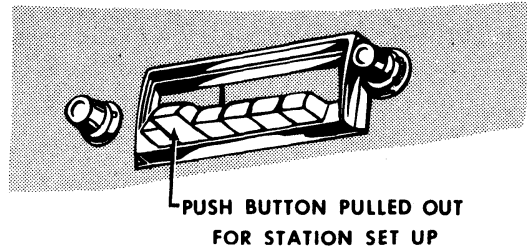

Fig. 9—Push Button Adjustment (Model 844) (Typical)
5. PUSH BUTTON ADJUSTMENT (MODEL 844) (Fig. 9)